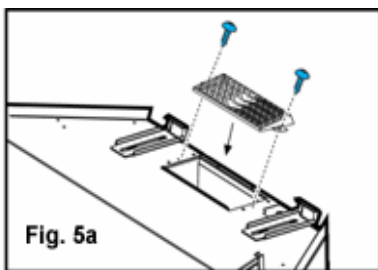

Fig. 5a
- Without a chimney the hood must operate in recirculation mode, therefore you should install the deflector (Fig. 5a) and then fit the carbon filter (see page 12 for details on how to fit the carbon filter).
- For ease of mounting, trace a central line on the wall (1). Position the cut-out template, so that the middle line printed on the top of it, corresponds to the central line that you have marked previously. The bottom of the template should correspond to the lower part of the hood, once it is mounted (2).
- Drill two holes Ø 8 mm and fasten the support bracket „F“ with two wall inserts and screws (3).
- Mount the hood (5) onto support bracket „F“. You can